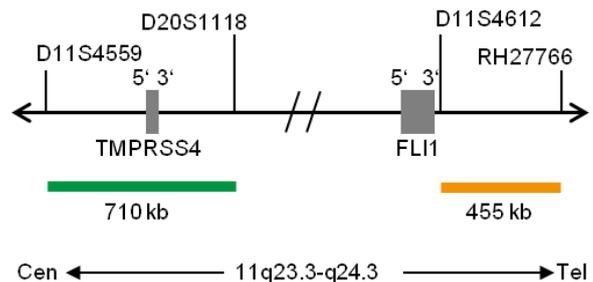

Fig. 1: SPEC 11q Probe map (not to scale).
- ZyGreen (excitation 503 nm/emission 528 nm) labeled polynucleotides (~ 8.1 ng/ $\mu$ l), which target sequences mapping in the minimal gained region (MGR) at 11q23.3\* (chr11:117,574,074-118,284,029) (see Fig. 1).
- ZyOrange (excitation 547 nm/emission at 572 nm) labeled polynucleotides (~ 1.6 ng/ $\mu$ l), which target sequences mapping in the minimal loss region (MLR) at 11q24.3\* (chr11:128,707,454-129,161,227) (see Fig. 1).
- ZyBlue (excitation 418 nm/emission at 467 nm) labeled polynucleotides (~ 7 ng/ $\mu$ l), which target Alpha Satellite sequences (D11Z1) in 11p11.1-q11\* (see Fig. 1).